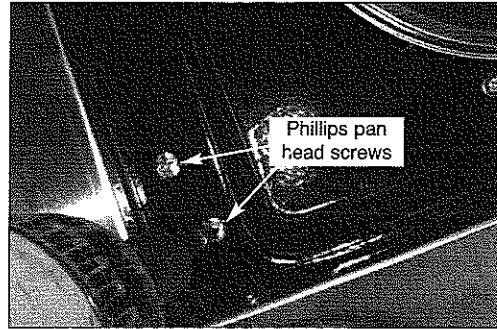

Fig 16
22. Open the side burner door. Remove the grate. Remove the two phillips pan head screws holding the side burner orifice bracket in position. (See Fig. 16)
26. Use the two screws removed in step 22 to secure the bracket in position and replace the grate. (See Fig. 16)